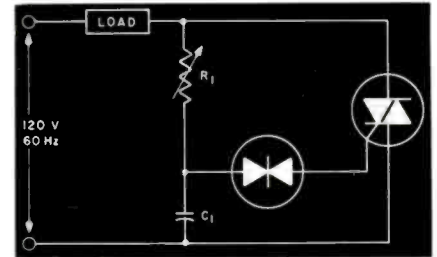
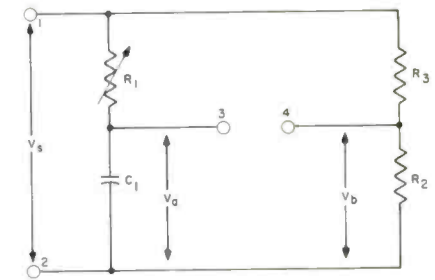
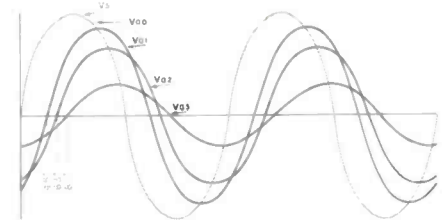

Fig. 11 — A solid-state circuit for controlling the ac current applied to a load.
Fig. 12 — The basic capacitor-time-constant circuit in an ac current regulator.
Fig. 13 — The relationship between the supply voltage (V_s) and capacitor voltage (V_i) varies with changes in the series resistance.
Solid-state ac current regulators have eliminated these problems. They control the amount of power applied to an ac circuit (motors, lamps, heaters, etc.) with the use of switching diodes, which regulate the average ac current applied. One such ac current regulating circuit is shown in Fig. 11.
The average ac current flowing through this circuit is controlled through the use of capacitor time constants. (Capacitor time constants are described in the September 1967 article of this series.) The application of these time constants can be more readily understood with the use of a simplified diagram (Fig. 12) showing a portion of the power regulating circuit.
When terminal 1 is more positive than terminal 2 (Fig. 12), electrons flow from one plate of the capacitor (C_1) through the variable resistor (R_1) and to the positive terminal (1). The rate of electron flow (amount of current) through the resistor (R_1) determines the rate that a voltage is developed across the capacitor. Since the resistor (R_1) restricts the amount of current into or out of the capacitor (C_1), it (R_1) can be varied to change the rate at which a voltage will be developed across the capacitor. After a sufficient period of time, the voltage across the capacitor (V_a) will equal the applied ac voltage (V_s).
curve would then be the same as the V_s curve in Fig. 13.)
When there is some resistance between the applied ac voltage and the capacitor (C_1), the resistor (R_1) restricts the current to the capacitor (Fig. 12), and the voltage across the capacitor (V_a in Fig. 13) does not increase as rapidly as the applied ac voltage (V_s). The applied ac voltage has already passed its peak by the time the capacitor voltage (V_{a1}) has reached its peak — the instant the two voltages are equal.
Triacs were described in the July 1968 article of this series. From their equivalent circuit, shown in Fig. 12 of that article, we can see that any voltage at the gate, resulting from leakage current, is not as great as the voltage applied across a triac. Two equal resistors can be used as a voltage divider to supply a voltage corresponding to the voltage present at the gate of some triacs. (Voltage dividers are described with Fig. 3 in the April 1968 article of this series.) To simplify our explanation of how the thyrector functions in the ac current regulating circuit (Fig. 11), voltage divider resistors (R_2 and R_3) were substituted for the triac (Fig. 12). These resistors, of course, do not function like a triac, but do supply